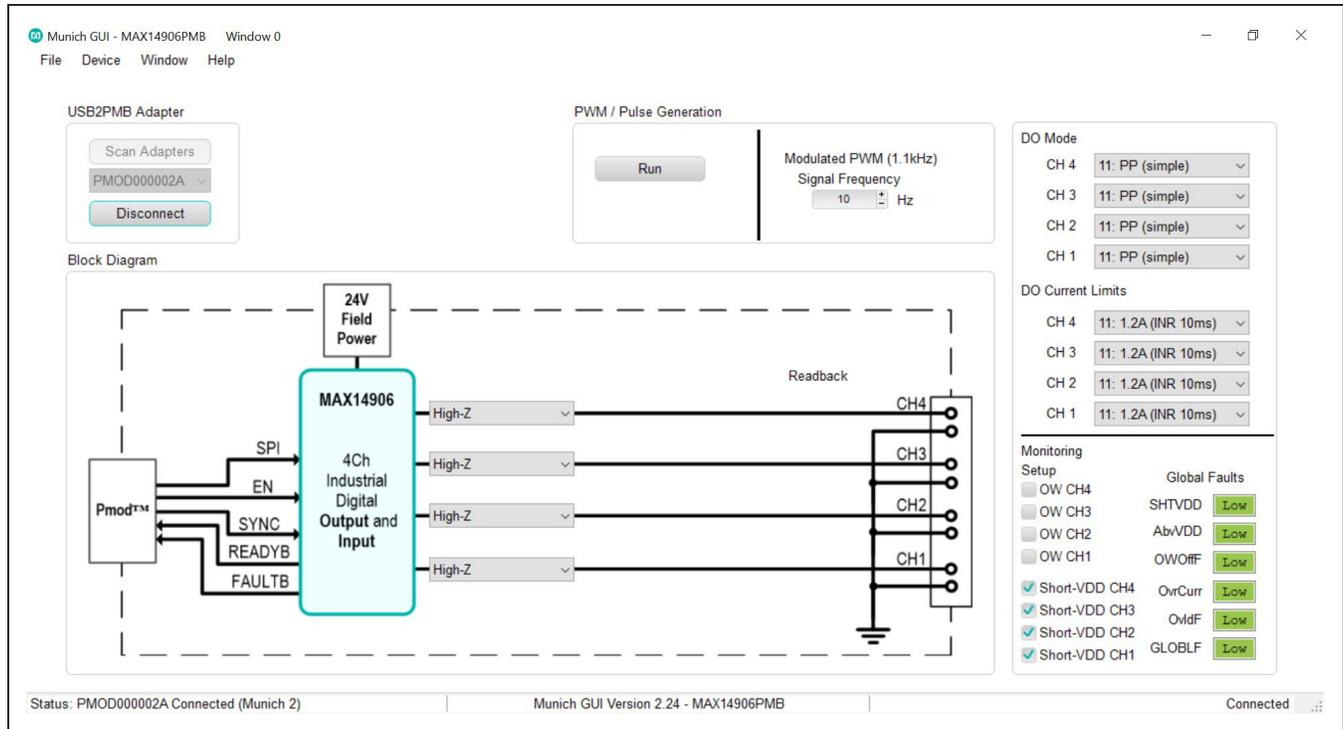

Figure 4. MAX14906PMB# Connected in Munich GUI
**Adapters** option to search for the USB2PMB2# or USB2GPIO# modules connected to the PC if the GUI does not automatically find the Pmod adapters. If adapters are found, the serial number of the adapters are listed in the **USB2PMB Adapter** drop-down list. Select the serial number of the adapter for the Munich GUI to communicate with. The software can only communicate to one module at a time. Select **Connect** and notice how status changes from **Disconnected** to **Connected** in the lower-right area of the GUI. The **Short-VDD** per channel monitoring is automatically enabled, and all **Global Faults** are **Low**, if the Munich GUI successfully communicates with the MAX14906PMB# as shown in Figure 4.